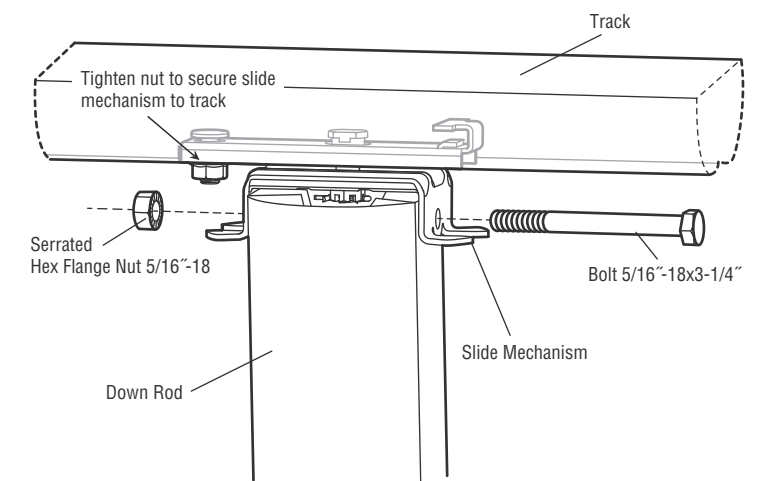

FIGURE 2
2. DETERMINE THE LENGTH OF THE DOWN ROD AND CUT TO LENGTH (FIGURE 2)